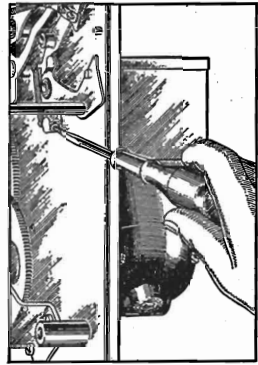

Figure 6—Adjusting lone arm locating screw
- (b) Improper adjustment of tone arm locating screw. This adjustment, shown in Figure 6, can be used to make a substitute adjustment for that described in (a), when the mechanism is out of the cabinet. Make the adjustment so that the needle will lower exactly $\frac{1}{16}$ " from the first groove on a standard 10-inch record. Loosen the lock nut on the adjusting screw by means of a No. 4 Spintite wrench on which the shoulder has been ground sufficiently thin for clearance. Do not attempt to make this adjustment without first loosening the lock nut. Tighten the lock nut when the proper adjustment has been made.
(4) FAILURE OF NEEDLE TO LOWER ONTO RECORD SURFACE